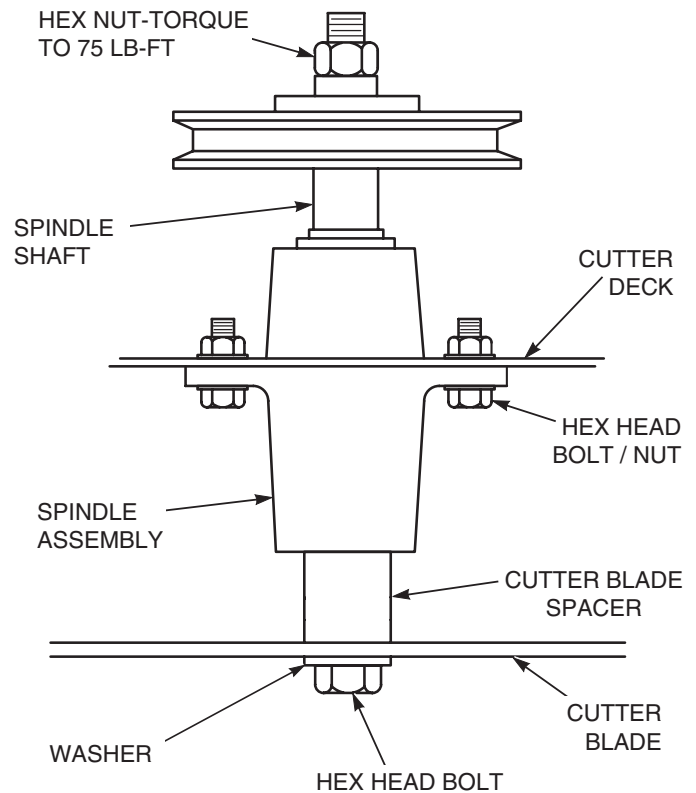

Figure 7-9. Blade Replacement
3. Secure the cutter blades to prevent them from rotating, (use the optional Blade Buddy tool P/N 9212, to assist in securing the cutter blades), remove the nut from the blade attaching bolt. Remove the cutter blade, bolt and spacer from the spindle shaft. See Figure 7-9.
6. Install the hex nut to the blade bolt at the top of the cutter spindle. Secure the blades from rotating and torque to 75 lb-ft. See Figure 7-9.